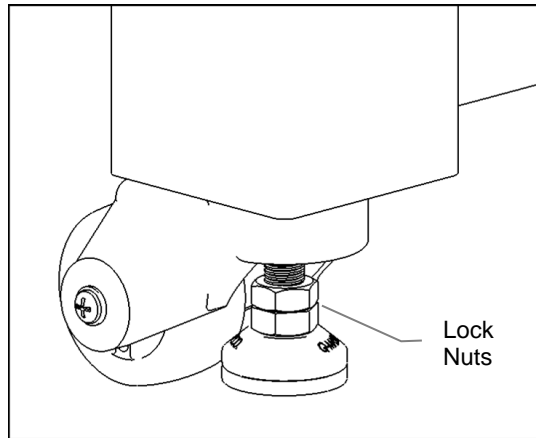

Figure 17 Workstation casters
2. Level the frame by adjusting the feet height (Figure 17). Use the enclosed bubble level to make sure the top surface is horizontal. After the feet are adjusted secure them by tightening the lock nuts. A 15/16" Combo Wrench is required. It is enclosed in the User Kit 90078017.